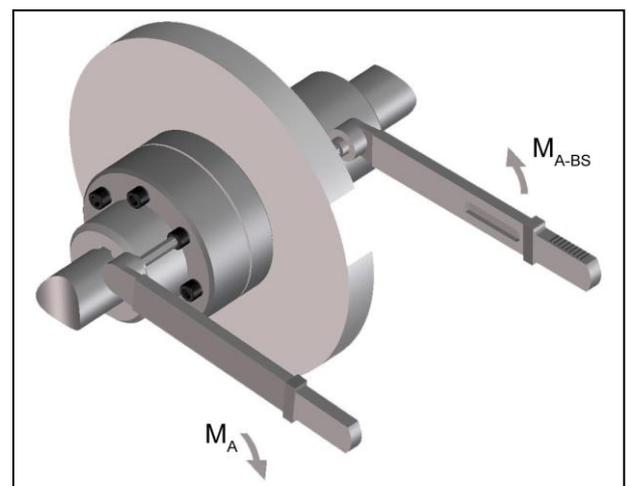

Fig. 13
- Tighten up the claw ring threaded joints with the tightening torque M_A stipulated in table 8 (Fig. 13).